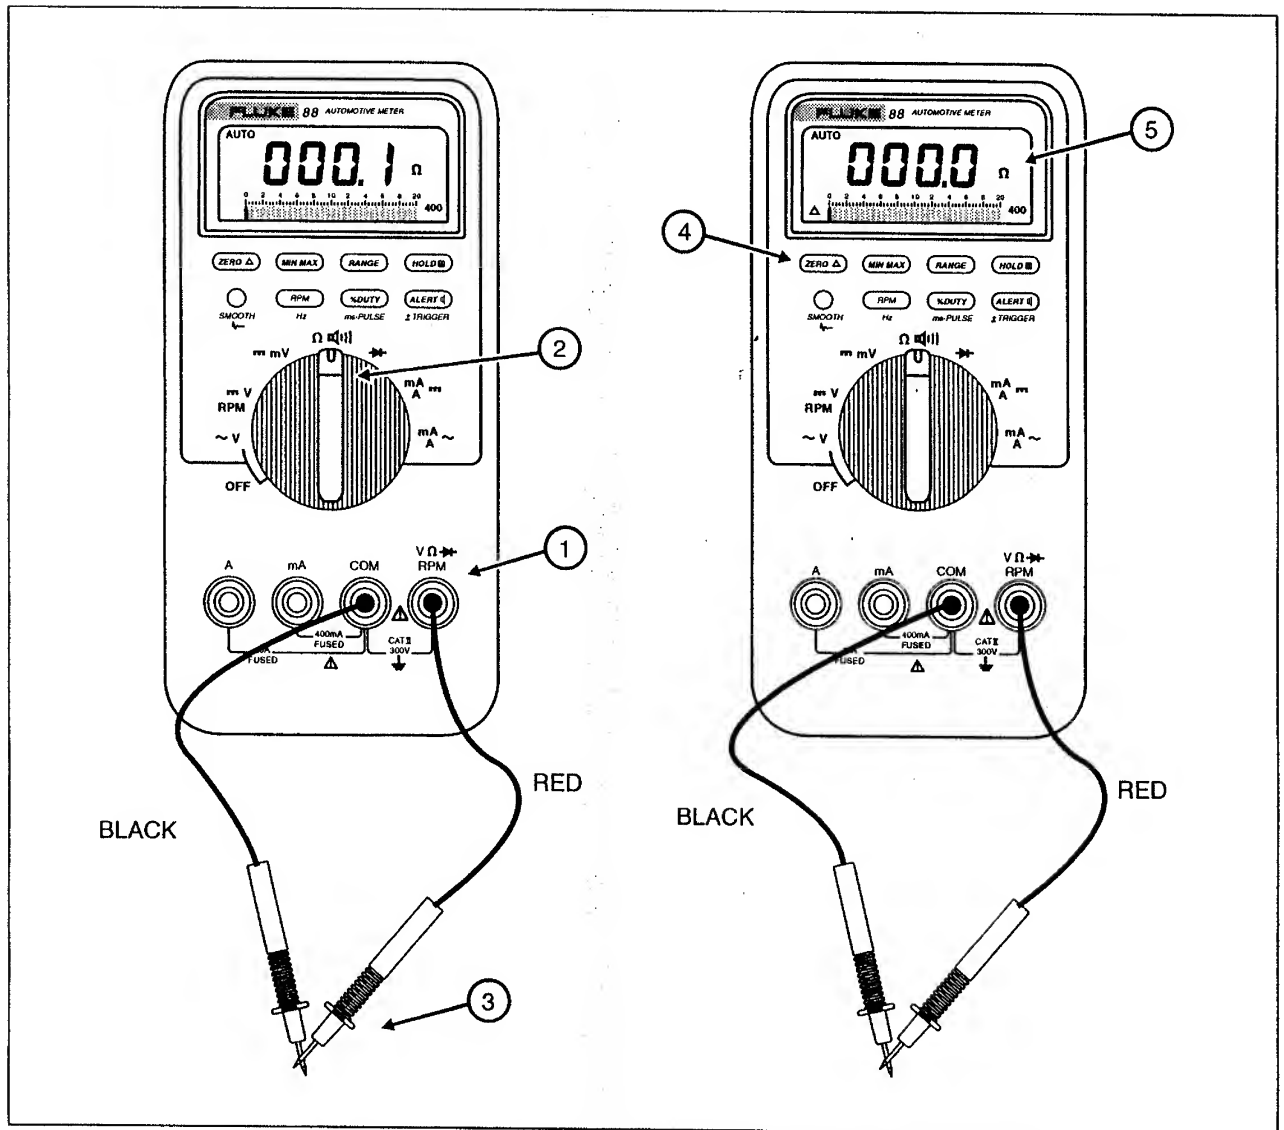

Figure 18. Using ZERO Function to Compensate for Test Lead Resistance
1. Plug the test leads into the input terminals shown in Figure 18.